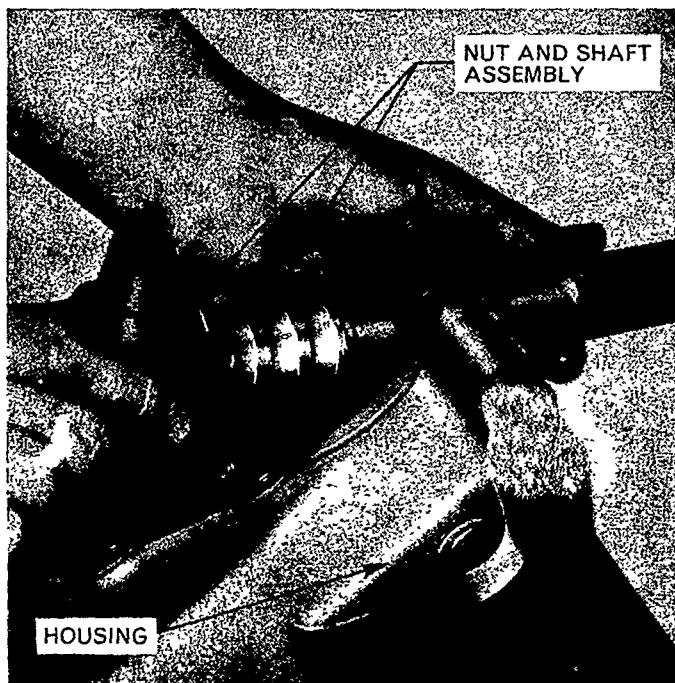

Figure 12
7. Withdraw the shaft and nut through the side cover aperture of the steering gear housing, Figure 12.